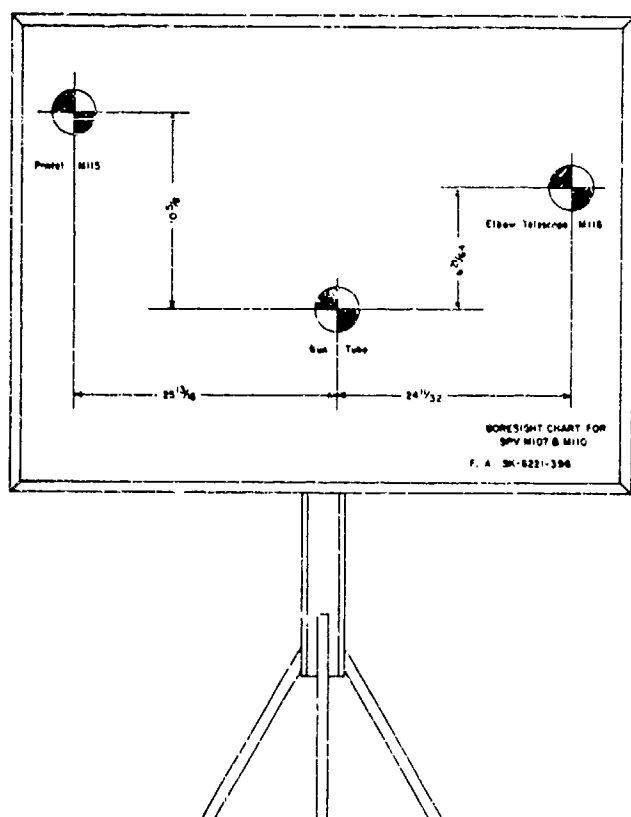

Figure 8-29. Testing target.
(a) *Testing target.* The testing target (fig 8-29) should be placed to the direct front of the weapon and at a distance between 50 and 100 meters from the weapon. The vertical and horizontal crosslines of the gun tube diagram on the testing target are brought into coincidence with the vertical and horizontal boresight cords of the weapon by moving the target (canting it if necessary) until coincidence is achieved. The maximum allowable cant of the trunnions (and the testing target) is 90 mils. The procedure for alining the vertical and horizontal crosslines of the telescopes and the vertical and horizontal crosslines of the target is described in (6) below.
(a) *Panoramic telescope M115.* By rotating the azimuth knob, adjust the vertical line in the reticle of the panoramic telescope on the distant aiming point (fig 8-28) or on the testing target (fig 8-29), depending on the method of boresighting being used ((5) above). The azimuth counter should read 3200. If the azimuth counter does not read 3200, depress the boresight adjustment shaft (located under the azimuth knob), rotate the shaft until the azimuth counter reads 3200 and release the shaft. Check the reset counter by turning the reset counter knob and see if the reset counter will register 3200. If so, the panoramic telescope is boresighted for direction. Continue the adjustment of the panoramic telescope by adjusting the horizontal line of the panoramic telescope to the distant aiming point (or testing target diagram) by